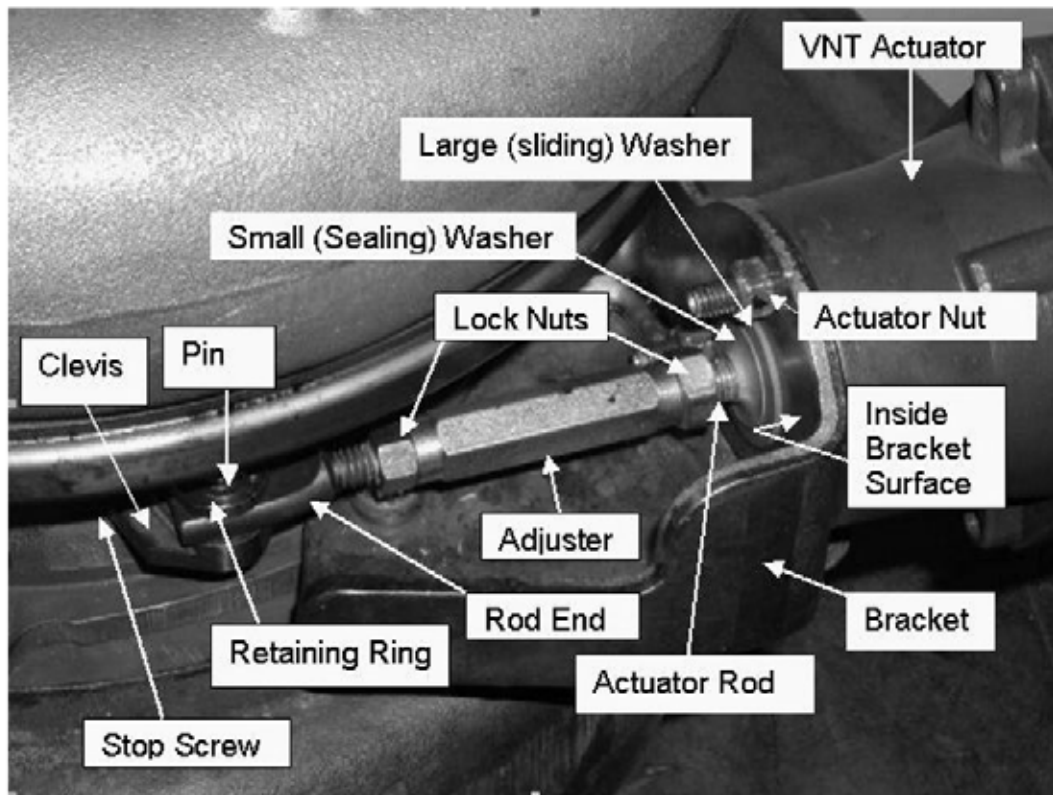

Figure 1
- Rotate the **adjuster body** (see Figure 1) until a 0.004 inch ± 0.001 ($0.10 \pm .0250$ mm) gap is achieved between the stop screw and clevis. Without allowing the adjuster body to rotate, tighten the lock nuts to 6.2 -7.9 N-m (55-70 in-lbs). *Note: Rotating the actuator body will allow for fine adjustment. If proper gap is not achieved by rotating the adjuster body, it is required that the rod end be removed from the clevis pin and rotated to provide course adjustment.*